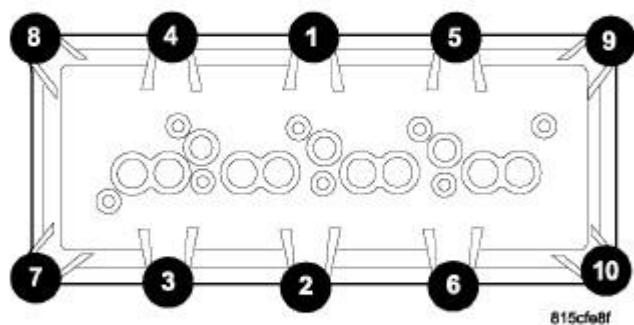

Fig. 94: Cylinder Head Cover Torque Sequence
6. Using the sequence shown in illustration, install the cylinder head cover. See **Engine/Cylinder Head/COVER(S), Cylinder Head - Installation**. See **Fig. 94**.